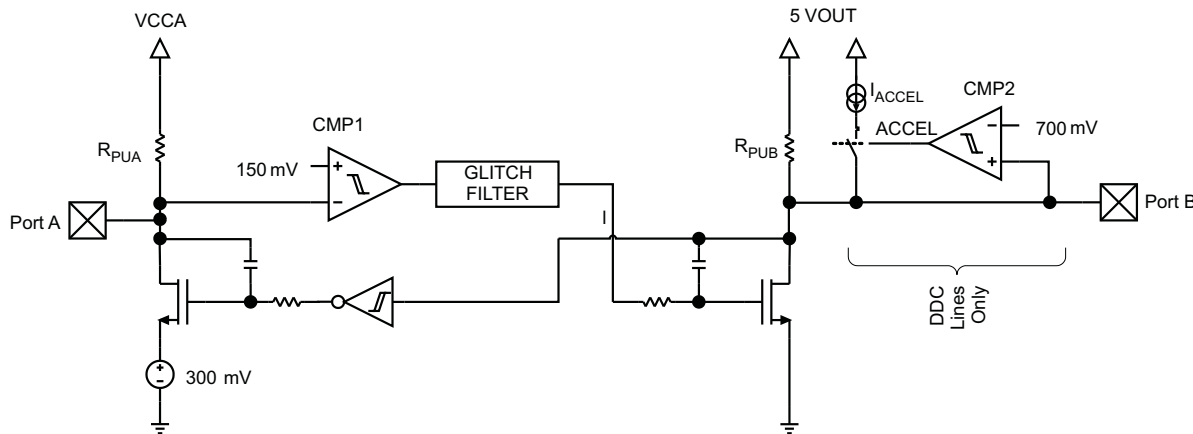

Figure 13. DDC/CEC Level Shifter Block Diagram
- The threshold of CMP1 (see Figure 13) is approximately $150\text{ mV} \pm 40\text{ mV}$ of total hysteresis.